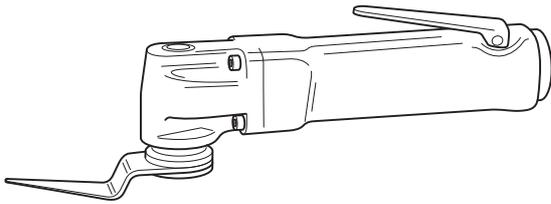

Fig 4. Pneumatic Knife
- a Pneumatic Knife. → Fig 4. \(B-29\). This provides one of the easiest methods of removing the sealant around laminated glass. The tool, powered by compressed air, should be sourced locally.